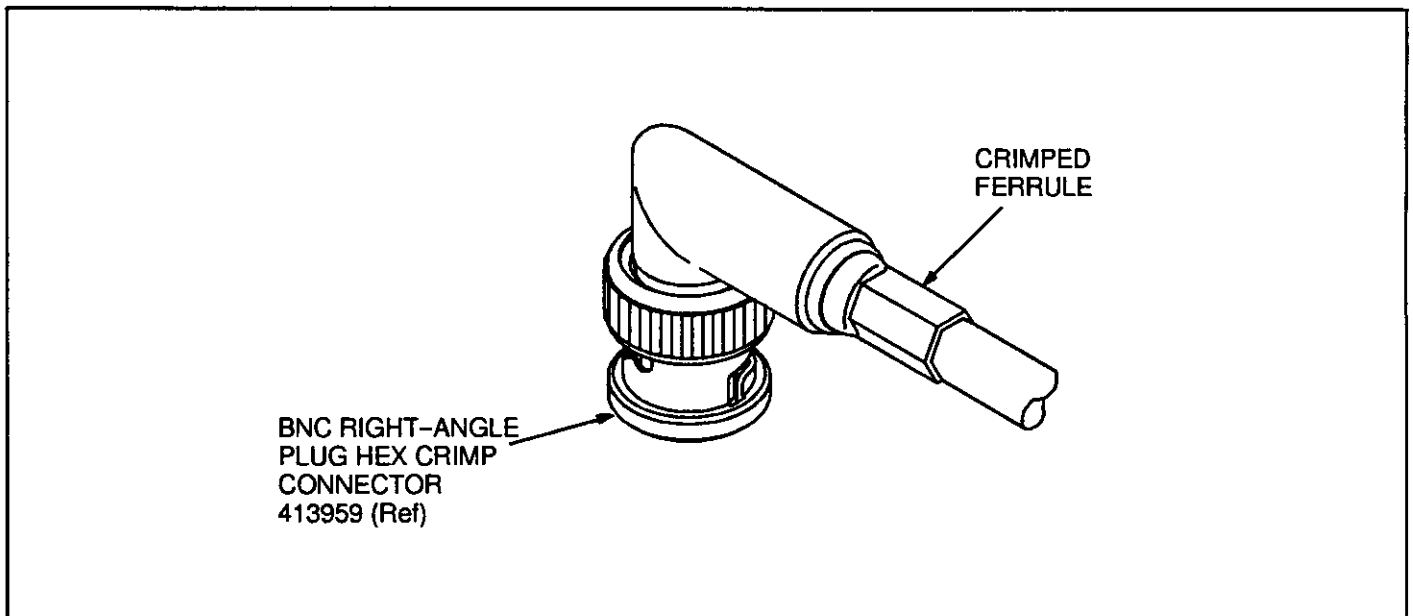

Fig. 6
4. Slide ferrule forward over braid and support sleeve. Crimp the ferrule using hand tool 220190-1. See Figure 6.